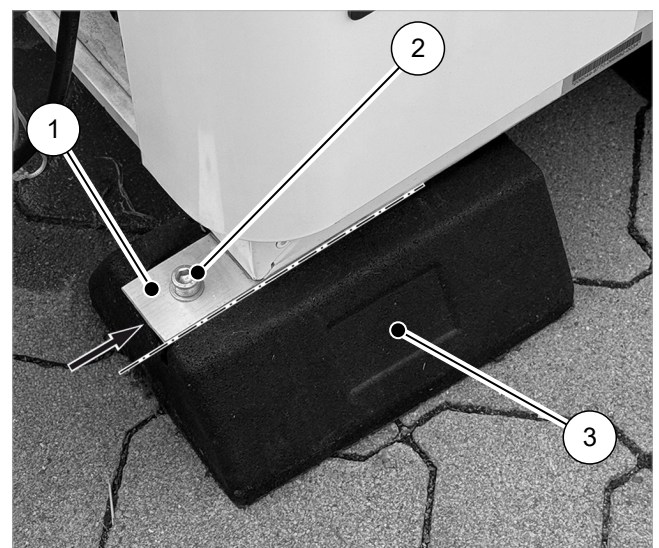

Fig. 6: Screwing the heat pump onto the vibration dampers
5. Screw a screw with washer (2) into the respective slot nut according to → Fig. 6.
Align the vibration damper according to → Fig. 6 so that the WP Lea damper mounting aid has as much contact surface as possible on the rail of the vibration damper. The vertical face of the vibration damper should be flush with the WP Lea damper mounting aid (arrow).